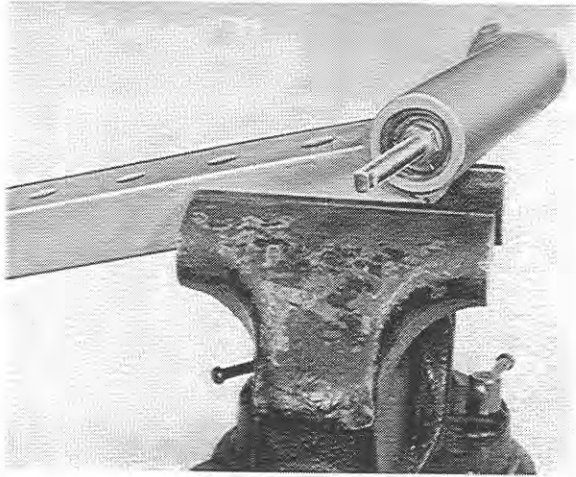

Fig. 1
- 1) Put into the spindle support, tool MOTU (Fig. 1).